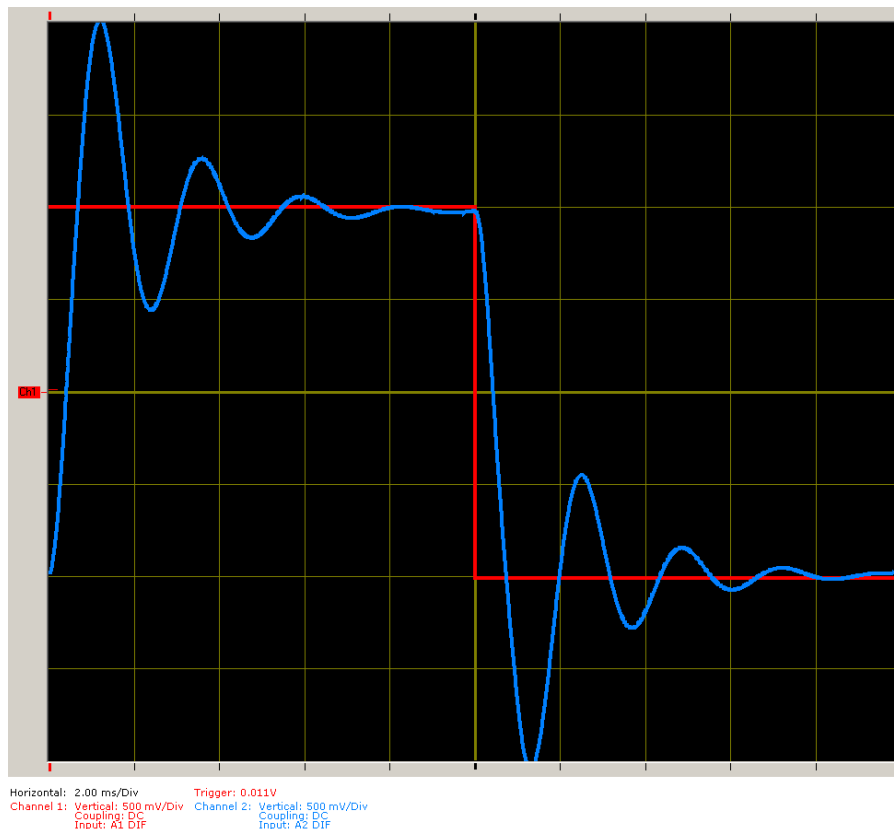
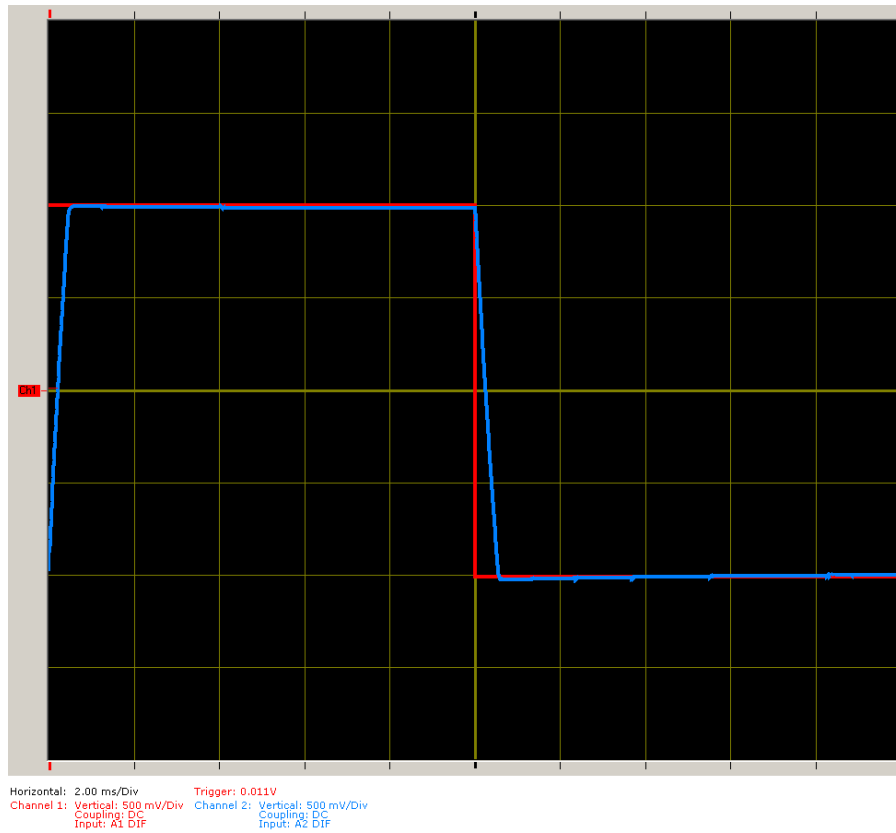

Figure 10. PI control of a first order system with 100% overshoot and a settling time of approximately 10 ms.
Figure 11. PI control of a first order system with 0% overshoot and a settling time of approximately 0.3 ms.
- 4) Adjust your controller so you get an output like that shown in figures 10 and 11 and *collect the two screen shots for your memo*. In particular, one screen shot (like Figure 10) should have a 100% overshoot and a settling time of approximately 10 msec, and the other screen shot (Figure 11) should have virtually no overshoot and a settling time of approximately 0.3 ms.